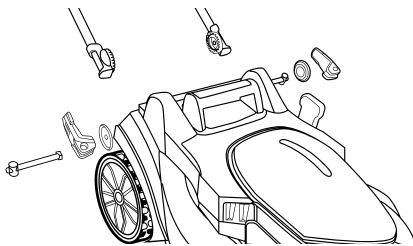

Fig. 1
- b. Lift the lower handle to the fixed height and tighten the Quick-Assembly Set. (Fig. 1).